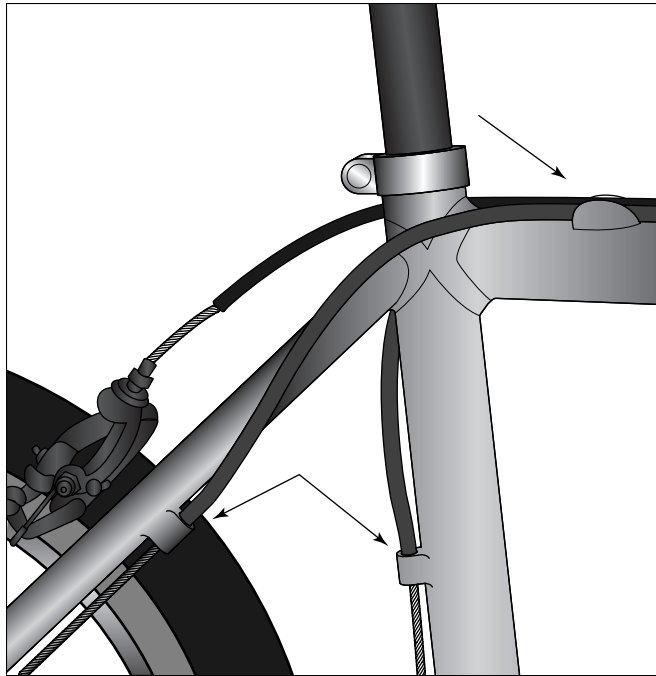

Figure 16-11:
- ✓ **Cables:** Give a light spray of oil to where the inner cable exits from the cable housing (see Figure 16-11). If you have a couple of minutes, remove the cable from the stop and give a spray into the cable housing.